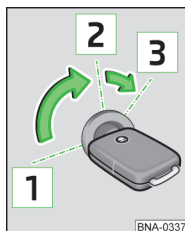

Fig. 61
Positions of the vehicle key in the ignition lock » fig. 61
- Turn the key to position **3** » fig. 61 on page 55, the start-up process will begin. Then release the key, the engine will start automatically.
- Turn the key to position **1** » fig. 61 on page 55.